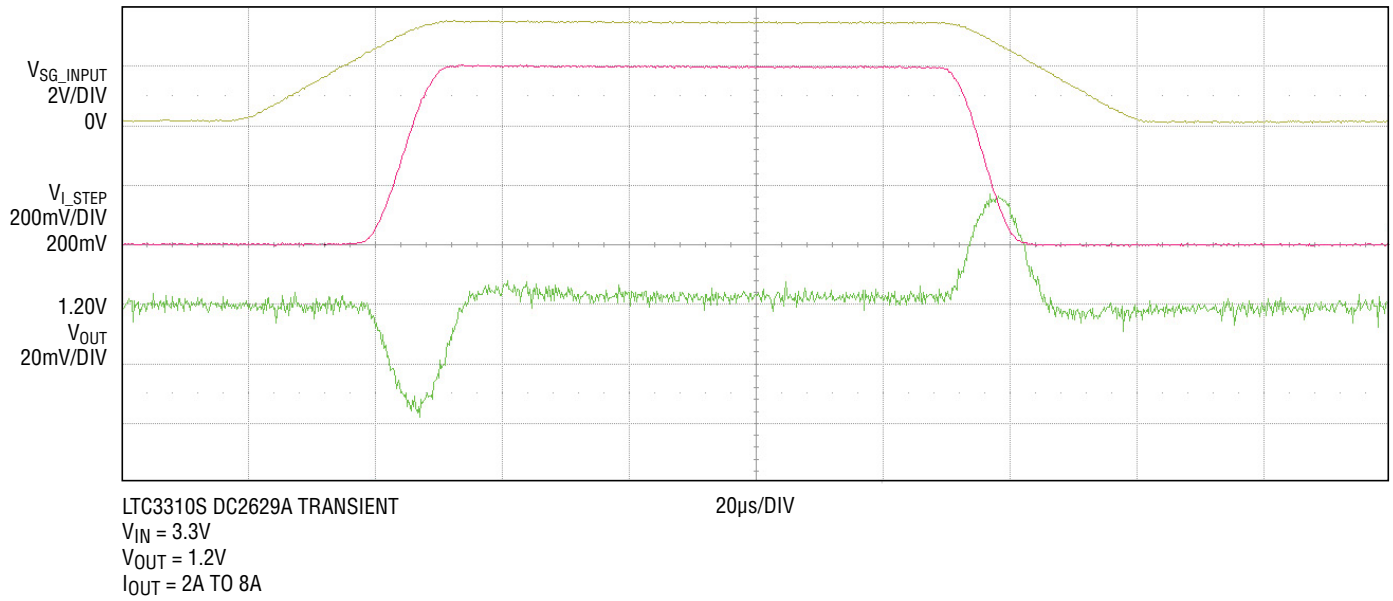

Figure 3. Technique for Measuring Load Step Response
8. Measure the I_STEP voltage to observe the current, $V_{I_STEP}/100\text{m}\Omega$. Adjust the amplitude of the pulse to provide the desired transient. Adjust the rising and falling edge of the pulse to provide the desired ramp rate. Figure 3 shows a load step from 2A ($R_L = 0.51\Omega$) to 8A. Refer to the following equations: